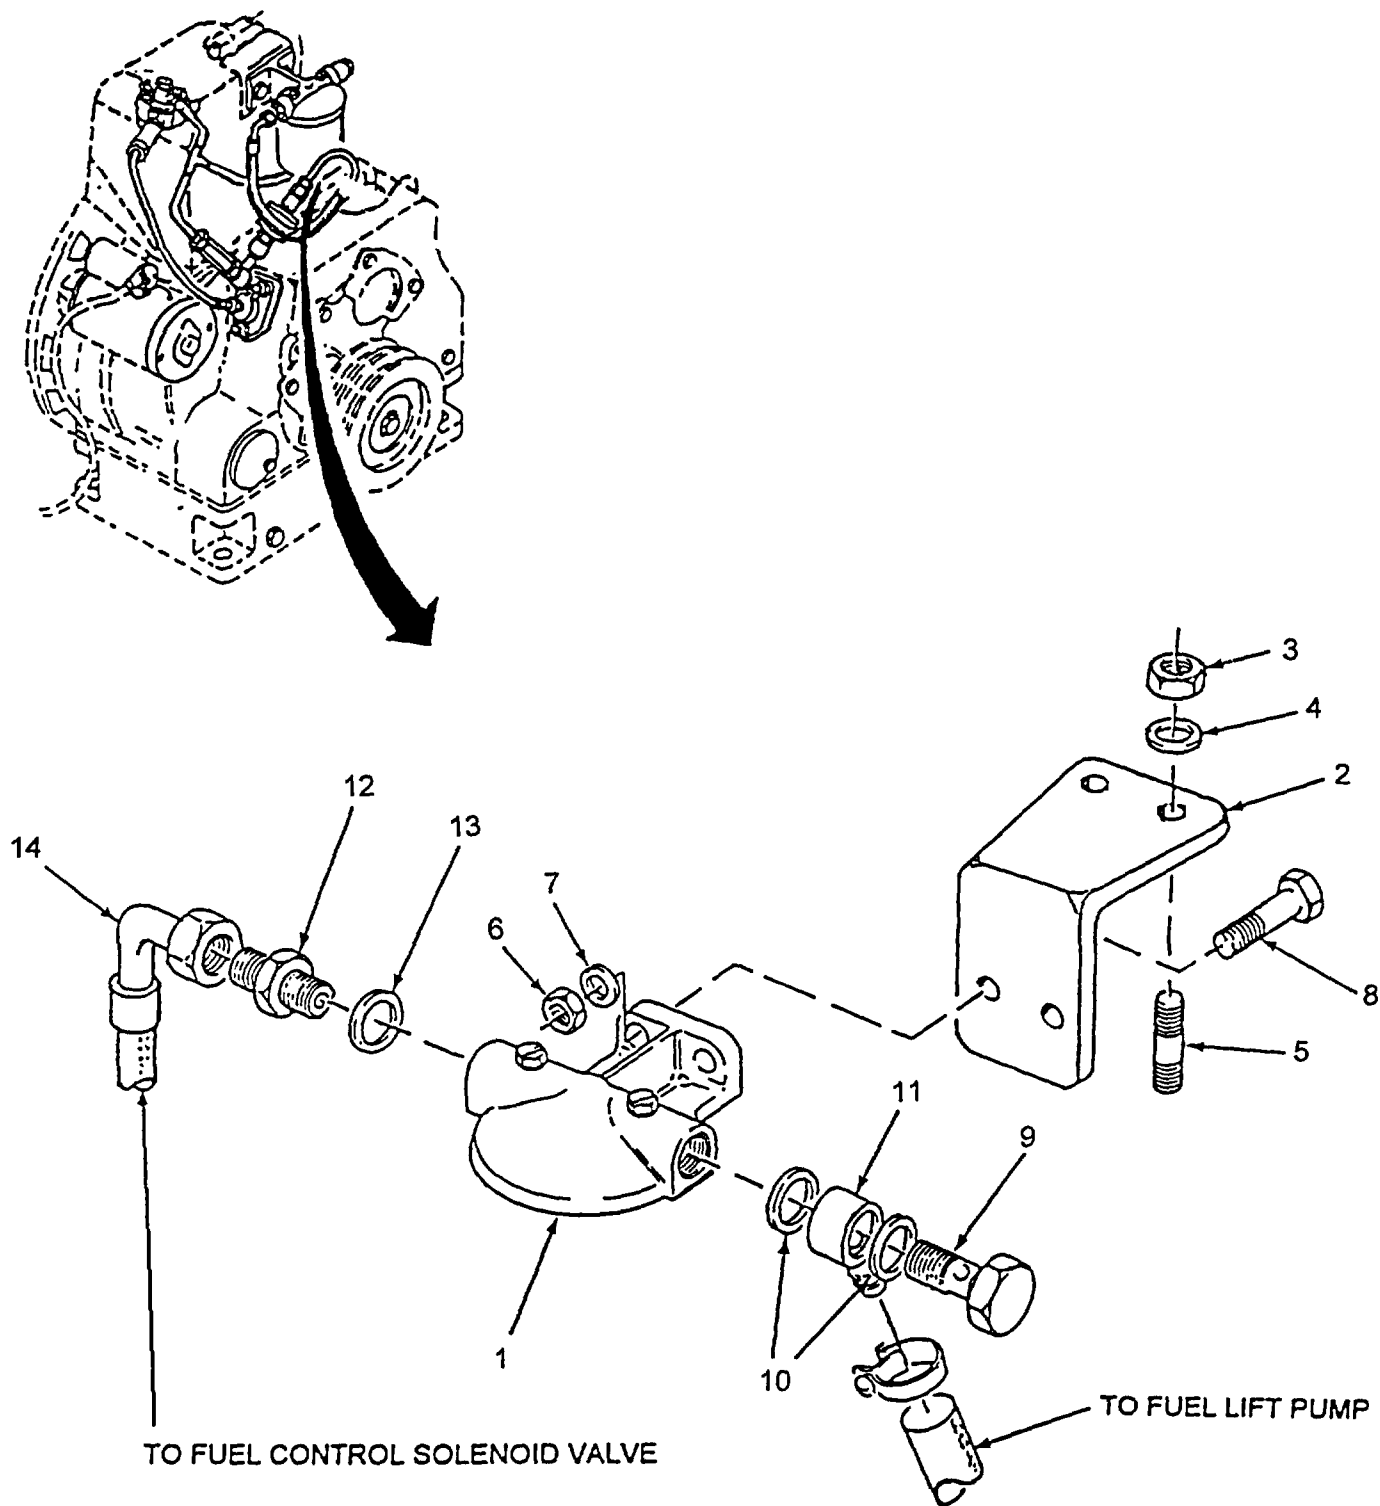

Figure 5-15. Fuel Filter Head
(1) Removal. (Refer to Figure 5-15).
- (a) Remove fuel filter head (1) and bracket (2) from cylinder head by removing two nuts (3), two washers (4) from two studs (5).
- (b) Remove two nuts (6), two washers (7), and two bolts (8) from bracket (2).
- (c) Remove bolt (9), two washers (10), and swivel union (11) from fuel filter head (1).
- (d) Remove union (12), and washer (13) from fuel filter head (1). Remove fuel control solenoid valve line (14) from union (12).
(2) Repair.